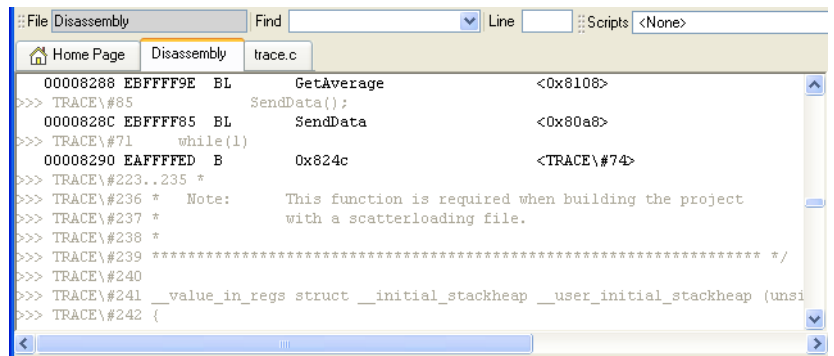

Figure 10-30 Disassembly view
- a. Scroll down the **Disassembly** tab until the next instance of while(1) is visible. Figure 10-30 on page 10-30 shows an example: